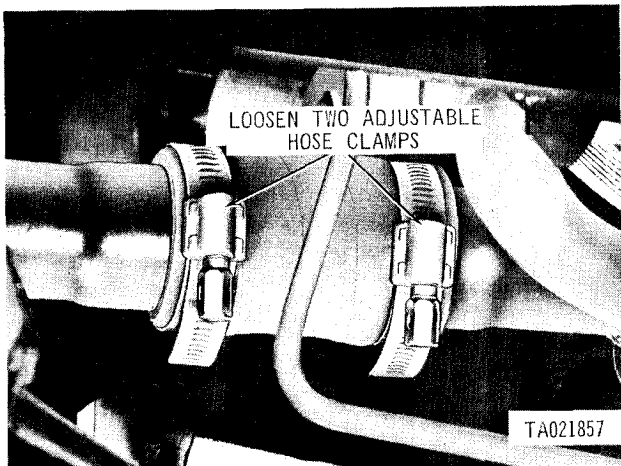

Figure 2-23. Loosening or tightening oil filter upper and lower tube and tube hose connection, model AVDS-1790-2C and AVDS-1790-2D engines.
(1) Loosen two hose clamps (fig. 2-23) on oil filler tube.
(6) Install upper oil filler tube (3) through lower left rear shroud plate and insert lower end of tube in hose (fig. 2-23). Secure upper oil filler tube bracket to turbosupercharger outer shroud plate with one machine bolt and self-locking nut (2, fig. 2-24) and to turbosupercharger base and tie rod with two machine bolts and lockwashers (1). Tighten hose clamps (fig. 2-23).